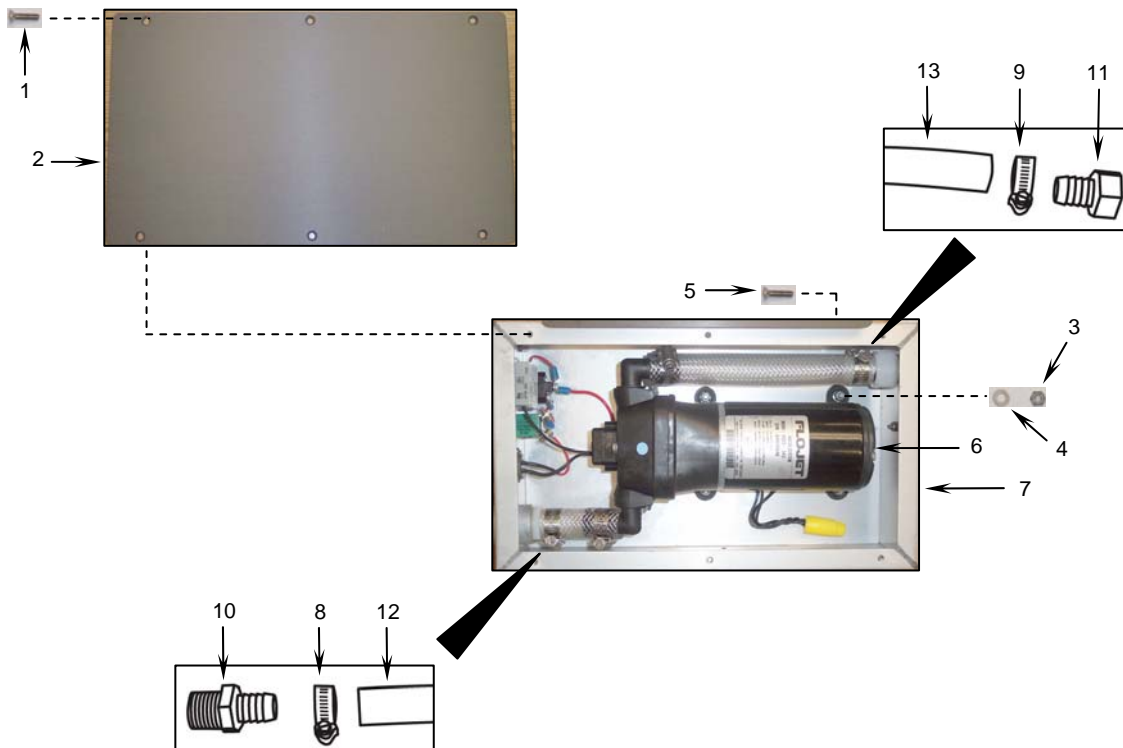

Figure 3. Removing the Sink Fill Pump Assembly Internal Straight Adapters.
- a. Remove the six flat head machine screws (**Figure 3, Item 1**) from the fill pump cover (**Figure 3, Item 2**).
- b. Remove the cover (**Figure 3, Item 2**).
- a. Remove the four self-locking nuts (**Figure 3, Item 3**), four flat washers (**Figure 3, Item 4**), and four flat head machine screws (**Figure 3, Item 5**) that secure the pump (**Figure 3, Item 6**) to the sink fill pump assembly enclosure (**Figure 3, Item 7**).
- b. Loosen the hose clamp (**Figure 3, Item 8**) or (**Figure 3, Item 9**) at the adapter (**Figure 3, Item 10**) or (**Figure 3, Item 11**) to be replaced.
- c. Work the tubing (**Figure 3, Item 12**) or (**Figure 3, Item 13**) off the adapter (**Figure 3, Item 10**) or (**Figure 3, Item 11**).
- d. Inspect the hose clamp (**Figure 3, Item 8**) or (**Figure 3, Item 9**). Replace if needed.
- e. Unscrew the adapter (**Figure 3, Item 10**) or (**Figure 3, Item 11**) from the enclosure.